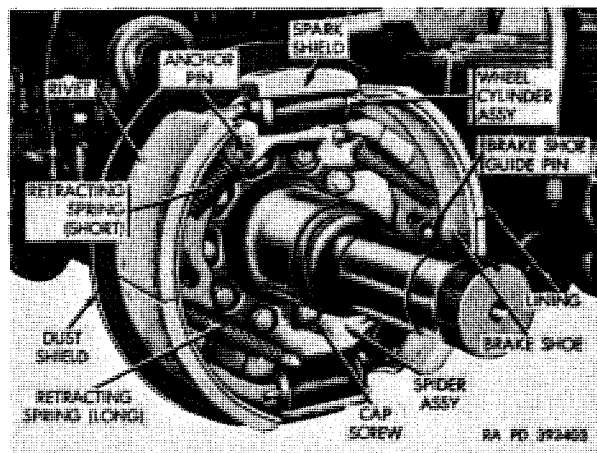

Figure 4-37. Internal brakes
(2) All Models except M127 (fig. 4-37).
f. Wheel Cylinders (All Models Except M127). The wheel cylinders (fig. 4-37) are self-centering. The wheel cylinder components include a piston return spring, piston cups, long and short pistons, and boots. The piston which actuates the toes of the brake shoes has a longer cylinder bore than the shorter piston in order to compensate for greater movement of the shoe toe resulting from brake adjustment for wear of lining. The bleeder screw and inlet ports are offset in the cylinder, toward the short piston end.